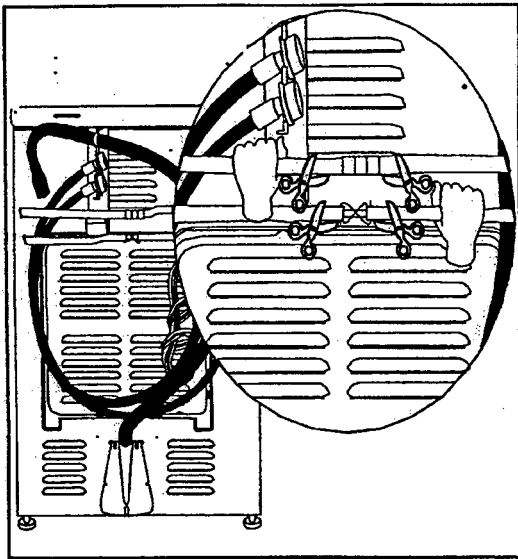

Figure 1-1
- a. Locate the metal buckles securing the red straps extending through slots in the rear wall of the cabinet. The buckles are positioned in the center of the red straps. Carefully cut the red straps, completely removing the metal buckles. **NOTE:** *Cut the straps as close to the buckles as possible.* Discard the metal buckles (*Figure 1-1*).